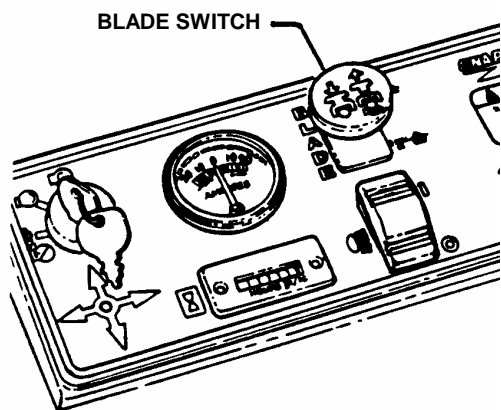

FIGURE 2.2
2.1.4. Check Blade switch to insure it works freely. Switch is pulled "OUT" for blade engagement or pushed back "IN" for blade disengagement. See Figure 2.2. **IMPORTANT:** Disengagement stops blades.
3. Push blade switch in to "OFF", blades disengaged position and engage parking brake. See Figure 2.2 and Figure 2.6.
2. Pull the Blade Switch out to the "ON" position to engage the mower blades. See Figure 2.2.